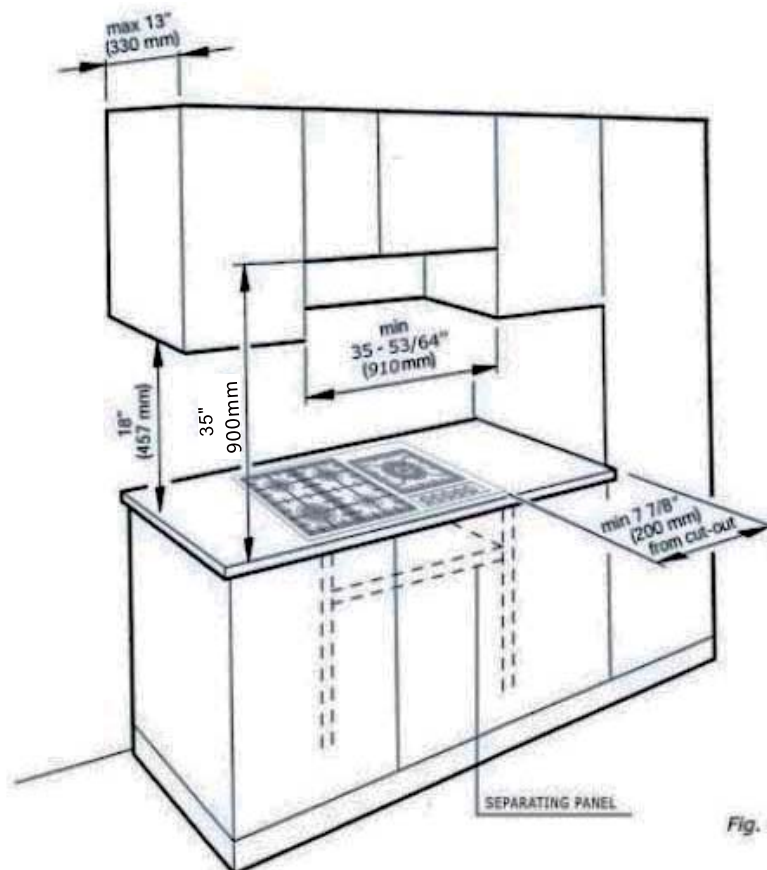

Fig. 4.2
4. A separating panel shall be provided under the cooktop as described in fig.4.2.